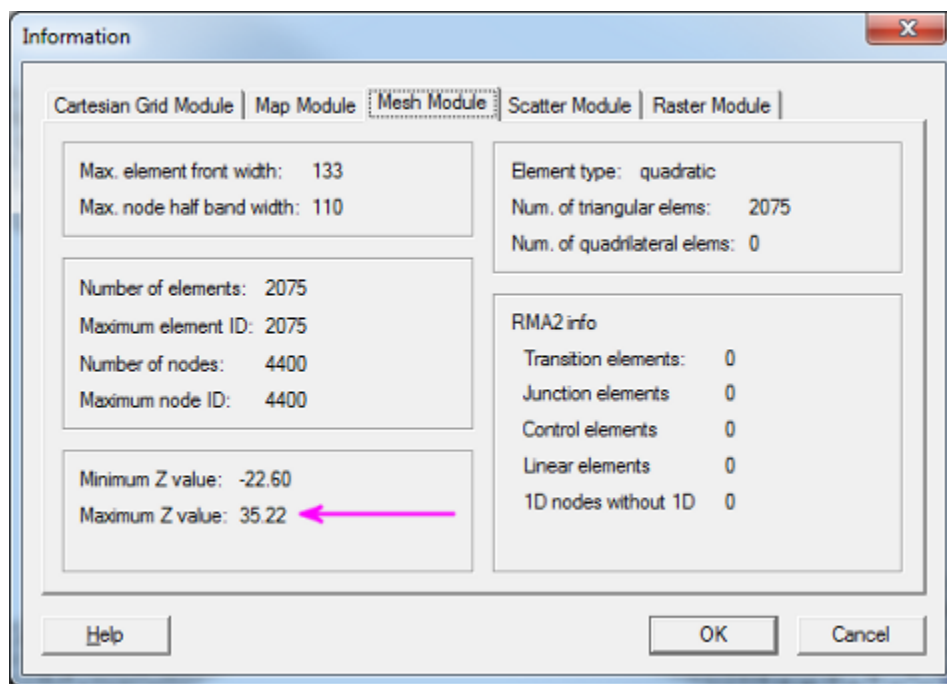

Figure 6. Mesh Information dialog.
2. In the *Mesh Module* tab, look at the *Maximum Z value* highlighted in Figure 6, and click *OK*.